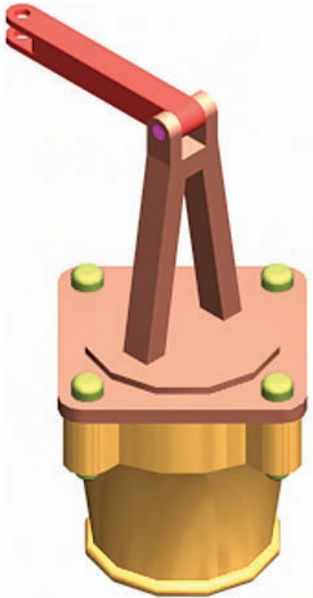
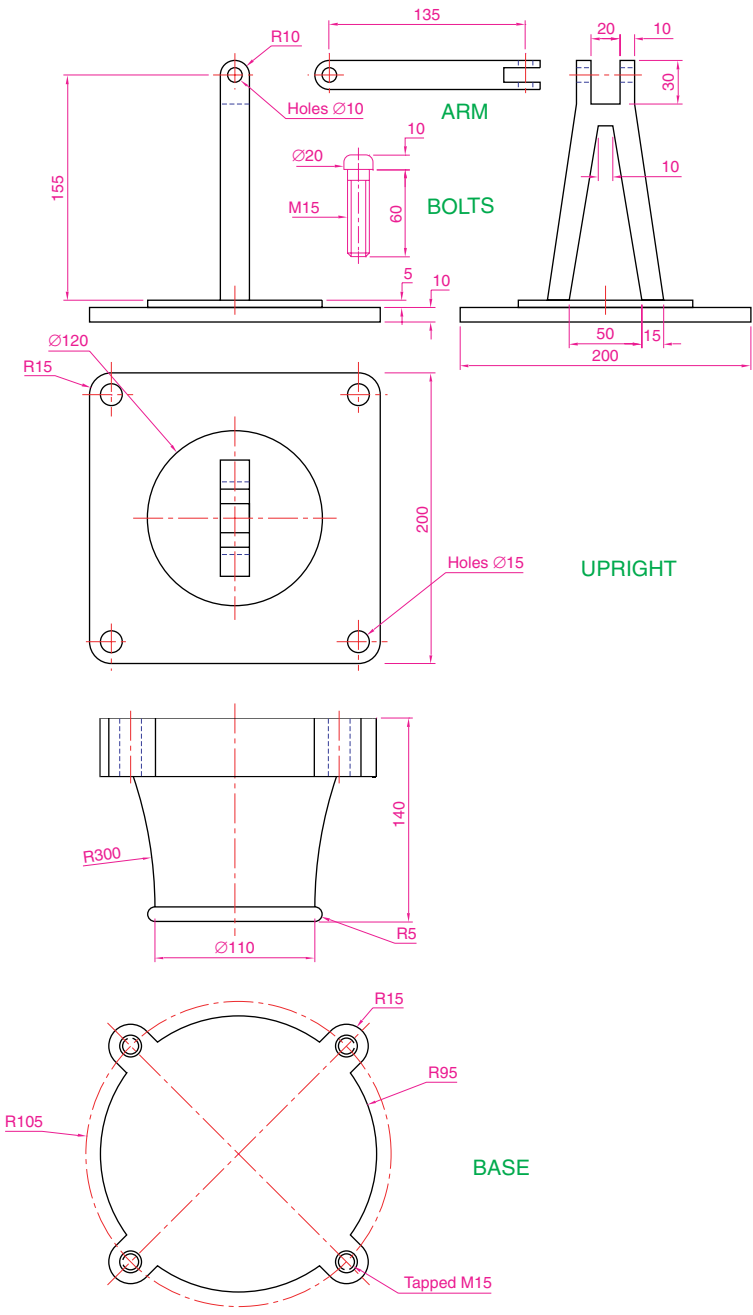

Fig. 19.30 Exercise 3
Fig. 19.31 Exercise 3 – the parts drawing
- Construct the 3D model shown in the rendering in Fig. 19.30 from the details given in the parts drawing in Fig. 19.31.